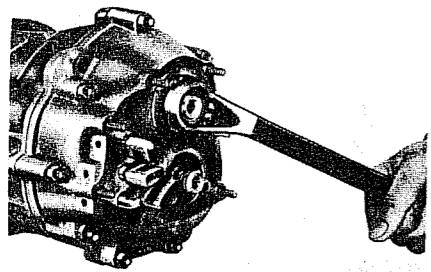

Fig. E.11. Removing the drive pinion nut on early type gearboxes. (On late type gearboxes the shaft is retained by a circlip).
3. If there are nuts on the end of the pinion and drive shaft, engage two gears at once, straighten the locking plates and remove the nuts (Fig. E 11).